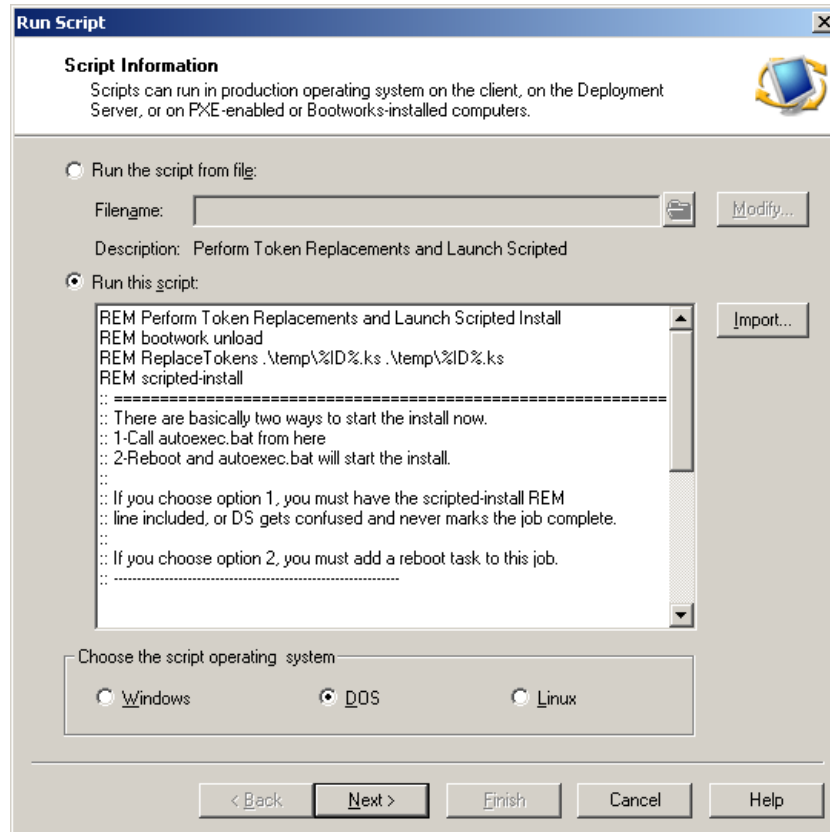

Figure 5-23 Script "Perform Token Replacements and Launch Scripted Install"
4. The fourth and final task, labelled **Perform Token Replacements and Launch Scripted Install**, is fairly simple but does quite a lot. There are several REM lines (REM lines are remarks and will not affect the running of the script) at the beginning of the script that help set up for the autoexec.bat execution as shown in Figure 5-23 on page 166.